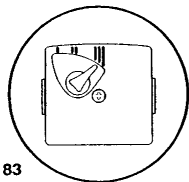

Fig. 83
**11.21 Pump - Complete (Figs. 83 & 84).**